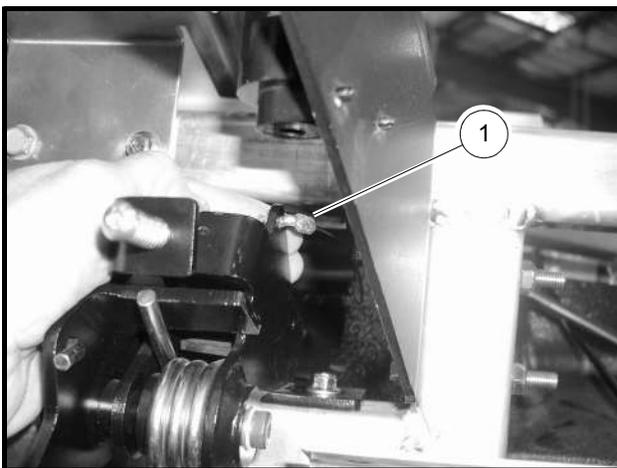

Figure 5-1 Z-Shaped Cable End – Gasoline Vehicles
5. Disconnect the Z-shaped end (1) of the accelerator cable from the pedal (**Figure 5-1, Page 5-1**).